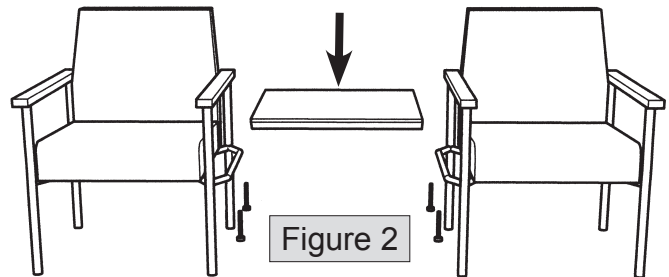

Figure 2
2. Orient tabletop so sticker faces back and connect to center leg frames using 1 1/2" Allen bolts into threaded inserts as shown in figure 2. Tighten securely.